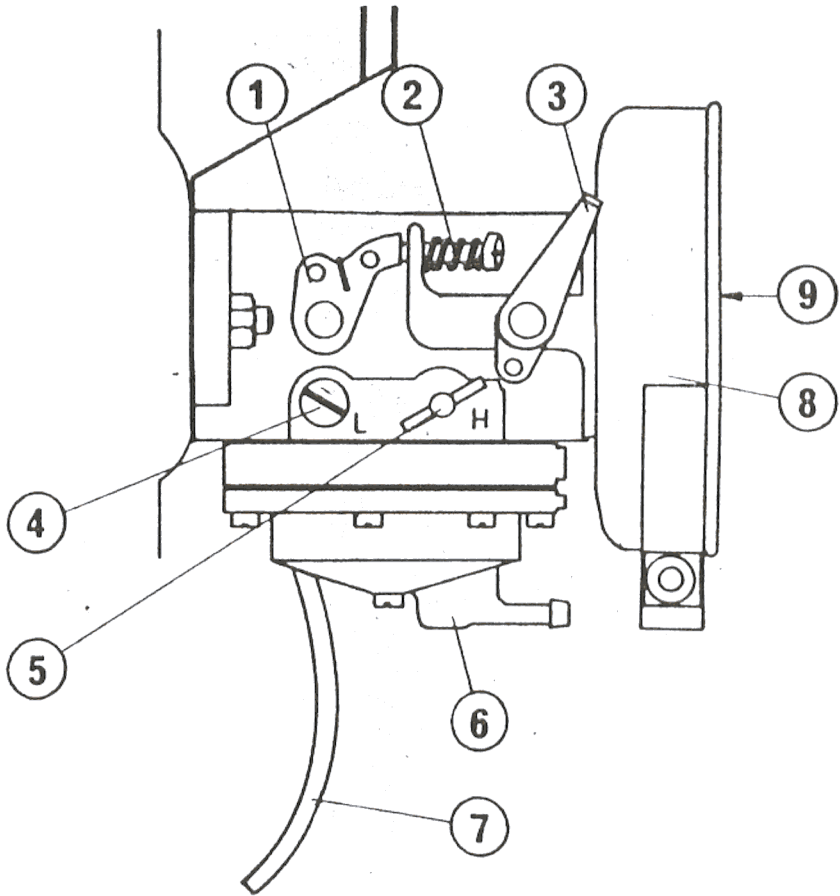

Figure 2 Carburettor
5. Put the choke lever (fig. 2 part 3) to the position shown in the figure, that is the "full choke position".
7. Open the needle valve of the carburettor (part 5 fig. 2)  $1\frac{1}{4}$  turns to the left. When the engine is warm the needle valve should be adjusted to achieve the best running position for power and for fuel consumption. **CAUTION.** Never turn the needle valve tight. This may cause damage to the point of the needle valve.
11. When the engine is running, the choke lever should be moved (fig. 2 part 3) gradually back from the starting position and the speed of engine set as desired by the throttle lever.
Starting is generally the same as for a cold engine, but the choke lever (fig. 2 part 3) should be left in the run position. No choke is used, because the mixture will be too rich, and the engine will not start.
Check that the choke is off (i.e. not in the position shown in figure 2), close the needle valve (part 5) and rotate the engine several times vigorously while the throttle valve is completely open. As soon as the engine starts set the needle valve (part 5) to the best position, and adjust speed of the engine by means of throttle.